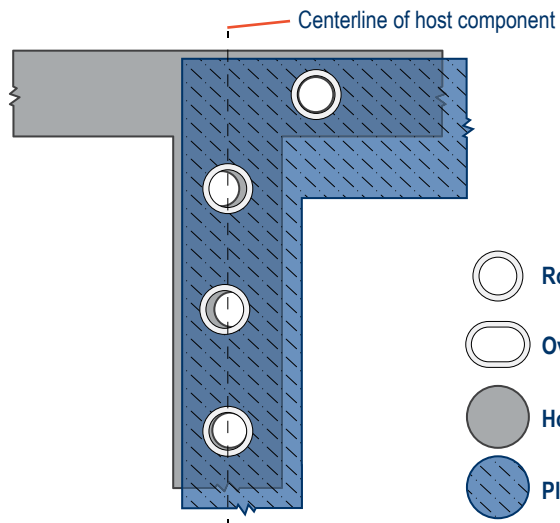
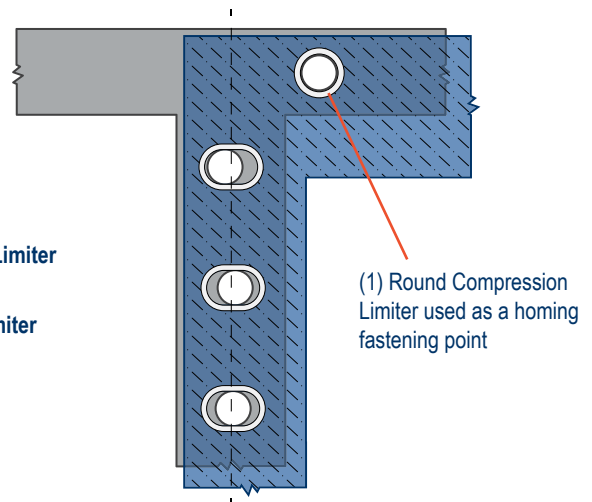

Figure 1
Figure 2
The Design Engineer of an assembly needed to account for the stack-up centerline tolerances of several fastening points. The requirement of the assembly in *Figure 1* was such that there could be no movement up and down along the y-axis. Therefore, the product designer decided to use (1) Round Compression Limiter as a datum point, which would be installed first to ensure correct overall positioning. Next, they redesigned the assembly to replace the (3) Round Compression Limiters with Oval Compression Limiters to account for any deviations from centerline along the remaining (3) fastening points (*Figure 2*).
If the mating component has known tolerance deviations along a certain axis, causing potential misalignment at specific fastening points, Oval Compression Limiters can be used strategically in combination with Round Compression Limiters (*Figures 2 & 4*). This flexibility gives the product designer of the plastic component the ability to provide solutions when alignment challenges present themselves – especially if they do not also have design control of the mating component. Round Compression Limiters serve a valuable purpose in the combination as well. In assemblies with multiple fastening points, designers do not necessarily want too much flexibility along one axis. That could lead to, for example, the entire plastic component sitting too far to one side of the mating component. Therefore, there is value in the clearance limitations of Round Compression Limiters while the Oval Compression Limiters alleviate the issue of potential misalignment on specific, targeted, fastening points.